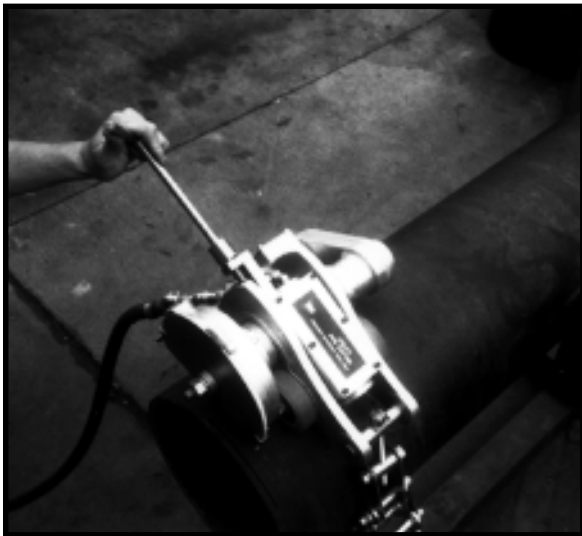

FIGURE 8
11. With water cooling system running, start power supply and proceed to penetrate cutter through pipe wall. Lock cutter into position once full depth of cut is achieved. Do this by snugging the gear box bolt and remove wrench (Figure 8).